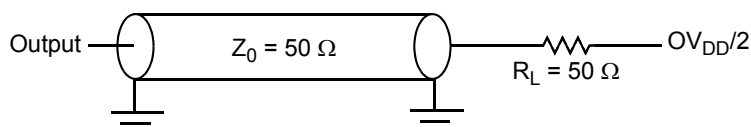

Figure 32. AC Test Load for the JTAG Interface
1. All outputs are measured from the midpoint voltage of the falling/rising edge of t_{TCLK} to the midpoint of the signal in question. The output timings are measured at the pins. All output timings assume a purely resistive 50-Ω load (see Figure 32). Time-of-flight delays must be added for trace lengths, vias, and connectors in the system.
2. The symbols used for timing specifications follow the pattern of $t_{\text{(first two letters of functional block)(signal)(state)(reference)(state)}}$ for inputs and $t_{\text{(first two letters of functional block)(reference)(state)(signal)(state)}}$ for outputs. For example, t_{JTDVXH} symbolizes JTAG device timing (JT) with respect to the time data input signals (D) reaching the valid state (V) relative to the t_{JTG} clock reference (K) going to the high (H) state or setup time. Also, t_{JTDVXH} symbolizes JTAG timing (JT) with respect to the time data input signals (D) went invalid (X) relative to the t_{JTG} clock reference (K) going to the high (H) state. Note that, in general, the clock reference symbol representation is based on three letters representing the clock of a particular functional. For rise and fall times, the latter convention is used with the appropriate letter: R (rise) or F (fall).